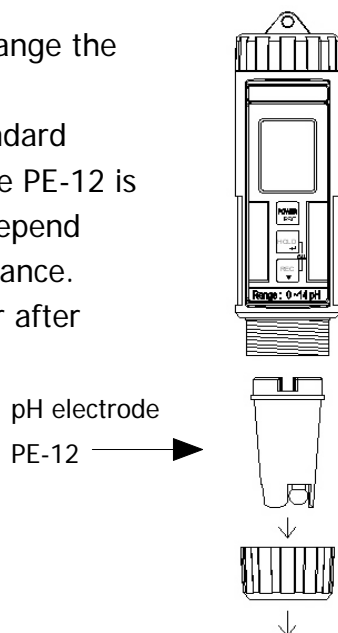

Fig. 2
- 1) Take away the pH electrode and change the new unit, refer the Fig. 2 .